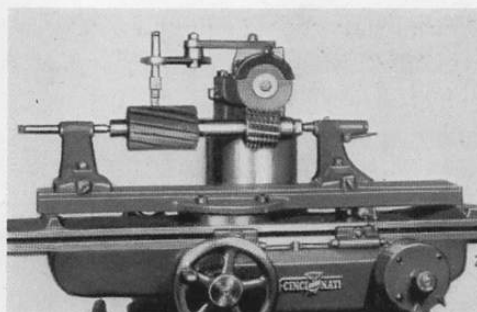

Fig. 34
**Grinding a Hob.** Grinding a hob is similar to grinding a tap or form milling cutter, except the difference due to the spiral of the hob teeth. Proceed as follows when setting up. (See Fig. 34)